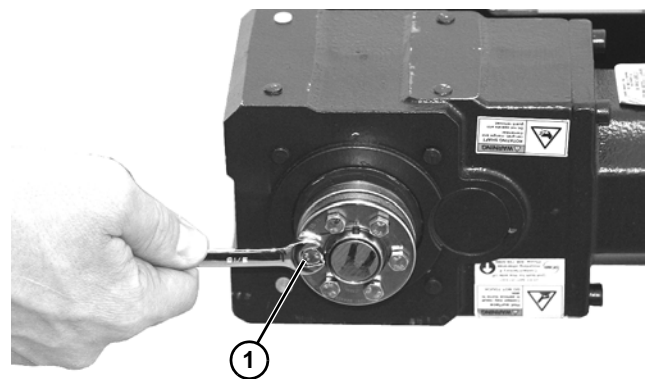

Figure 18
7. Tighten six hex head screws (Figure 18, item 1) to secure assembly onto shaft.